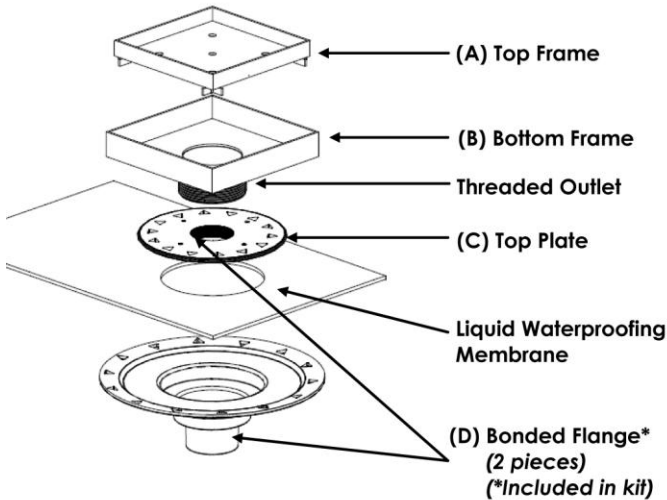
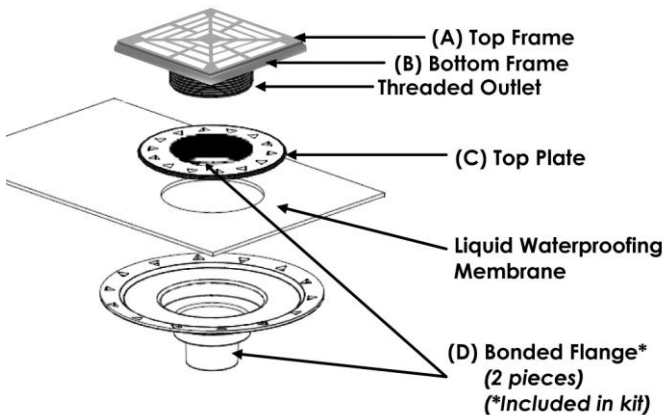

Fig. 1
Fig. 2
Before placing mortar, apply a slurry bond coat made from 254 Platinum or 4237 Latex Additive mixed with 211 Powder. While the slurry bond coat is wet, spread 3701 Fortified Mortar Bed and compact well. Mortar beds shall be 3/4" minimum to 2" (50 mm) maximum. Mortar beds in excess of 2" (50 mm) thick shall be detailed by the architect per TCNA F112-11. Prior to installing the HYDRO BAN® Bonding Flange Drain make sure the backer board has been installed on the walls following the manufacturer's recommendations. The HYDRO BAN Bonding Flange Drain should be installed per TCNA B422. Before installing the HYDRO BAN Bonding Flange Drains make sure the opening in the floor where the waste line connection is made is 4-1/4" (108 mm) in diameter. The lip of the HYDRO BAN Bonding Flange Drain should sit approximately 1-1/4" (32 mm) above the substrate. Dry fit the HYDRO BAN Bonding Flange Drain through the hole and to the waste line below. When connecting to a 2" (50 mm) waste line which is already in place the top of the waste line should be 1-3/4" (44 mm) below the surface of the substrate. Make sure that the HYDRO BAN Bonding Flange Drain is PVC when connecting to a PVC waste line or ABS when connecting to an ABS waste line. Cement the HYDRO BAN Bonding Flange Drain in place using PVC solvent and cement for PVC and ABS solvent and Cement for ABS HYDRO BAN Bonding Flange Drain and waste line connections. Make sure that the HYDRO BAN Bonding Flange is level before the PVC or ABS cement has cured. DO NOT MIX materials, this will cause a failure in the pipe weld. When installed over EGP the bonding flange (D) Fig 1 and 2 can be screwed to the substrate using stainless steel or zinc coated 3" (76 mm) drywall screws. There are four countersunk holes around the perimeter of the bonding flange (D) for this purpose. The installation is now ready to accept the mortar bed.
Installing HYDRO BAN and Tile (Fig. 1 and Fig. 2)
3. Tile walls and floors; when thin-set and tile are ready to be installed around the HYDRO BAN Bonding Flange Drain comb thin-set onto bonding flange (D) and set top plate (C) onto the bonding flange. Thin-set should ooze through the triangle voids in the top plate (C). Scrape any excess thin-set from the top plate (C) using a trowel. As you tile closer to the top plate insert the threaded outlet of the top and bottom frame (A and B) into the top plate (C). Adjust the top and bottom frame by screwing in the threaded outlet to the top plate (C) to allow for height adjustment (fig. 2). Thin-set over the top plate (C) and install tile.
4. If using the tile-in grate with the HYDRO BAN Bonding Flange Drain, remove top frame (A) and prime surface with two coats of HYDRO BAN prior to installing tile within the frame using a